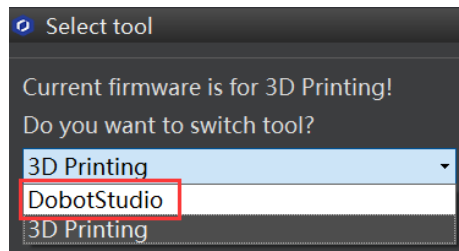

Figure 5.38 Select the DobotStudio to upgrade the Dobot firmware
1. Select **DobotStudio** to upgrade the Dobot firmware, as shown in Figure 5.38.